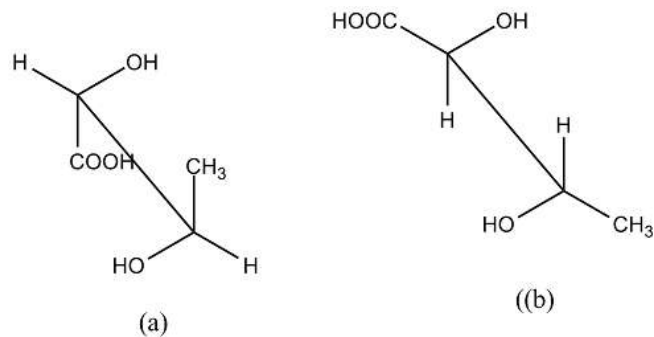

Figure 4.56:
5. Find out whether the following molecules are enantiomers, diastereomers or one and the same (fig. 4.56). Assume that priority decreases from A to F